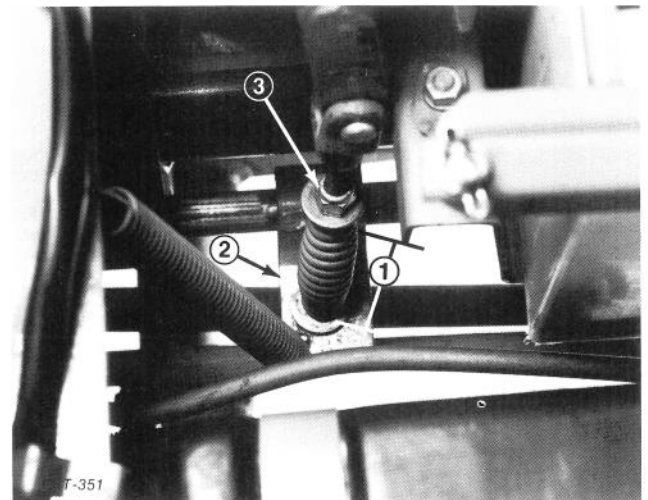

Figure 53
- 3. Measure length of PTO spring between flat-washers (Fig. 53). There should be a spring length of 3-3/16 in. (81 mm).
- 4. To adjust, hold head of adjusting screw with wrench (under PTO actuating arm) and turn locknut (Fig. 53).